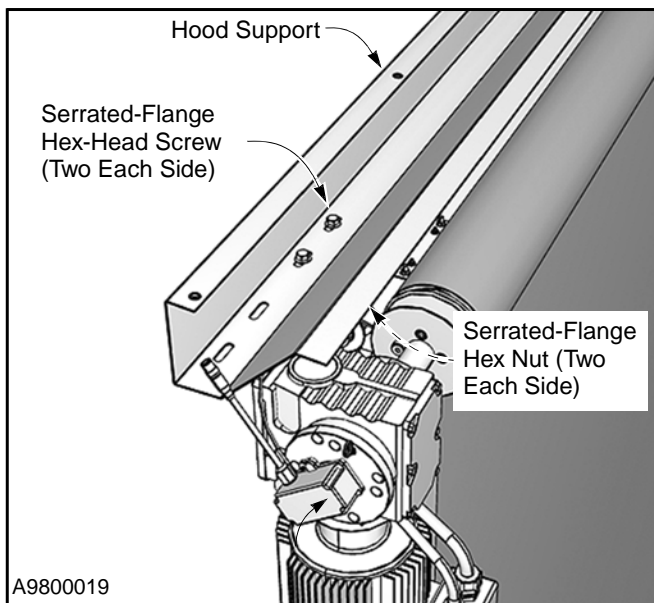

Figure 54
1. Attach the hood support assembly to the top of the side columns using two $\frac{3}{8}$ -16 x 1-in. serrated-flange hex screws and nuts on each end. (See Figure 54.)